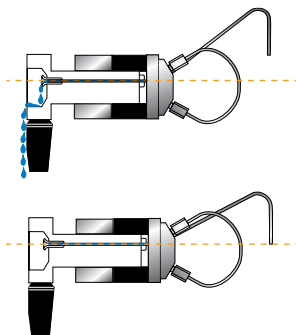

Figure 2 Needle port level compared to the level of vent line outlet:
- 3 If fluid leaks from the needle port and/or vent lines but eventually stops, the cause is most likely siphoning and not a leak. Siphoning occurs if the vent lines are lower or higher than the needle port. Adjust the vent line(s) so that the outlet is at the same horizontal level as the needle port (See Figure 2).